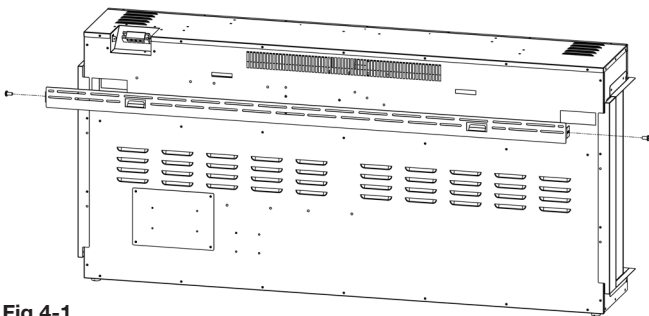

Fig.4-1
- Remove the wall bracket from the back of the unit by removing the screws (Fig. 4-1). Set screws aside. For best results, keep the side skirts installed onto the fireplace.